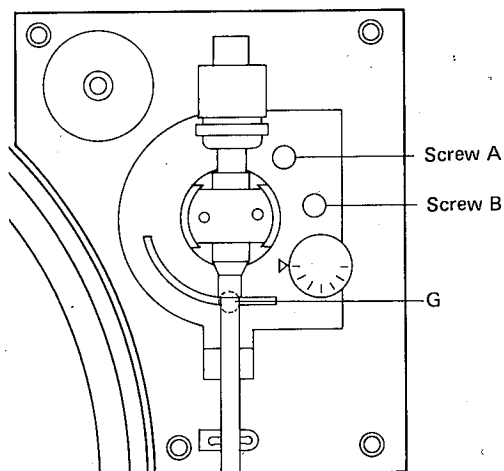

Figure 7
To adjust the height of the stylus tip when using the cueing facility, turn the adjusting screw (G) clockwise or counter-clockwise to adjust the distance between the stylus tip and face of a record disc on the Turntable to be 6 mm. (Figure 7)
#### 5. Automatic Mechanism Adjustment (Figure 7)